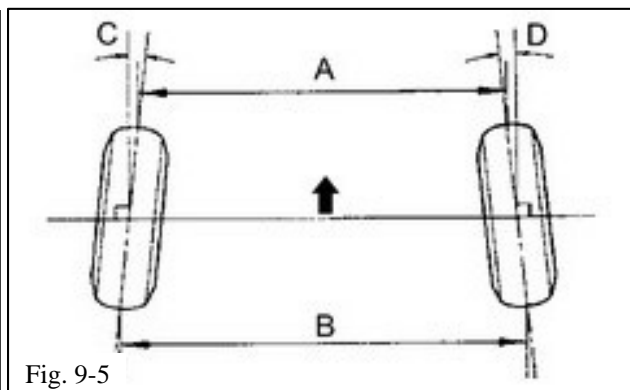
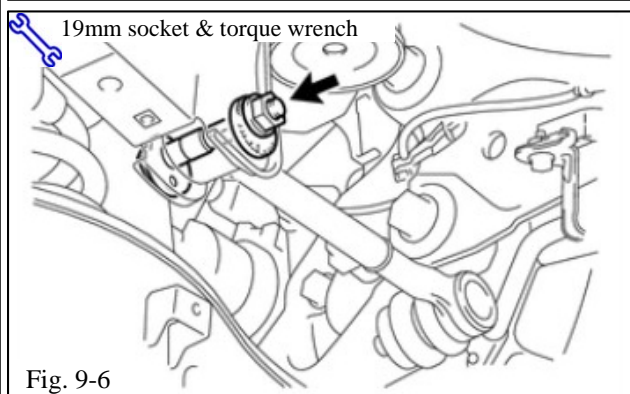

Fig. 9-5
Fig. 9-6
- (e) Measure the toe (Fig. 9-5). If necessary, adjust it by loosening the cam locking nuts and turning the adjustment cams (Fig. 9-6).
- (f) Use a 19mm socket to torque the locking nuts, taking care not to upset the final readings (Fig. 9-6).